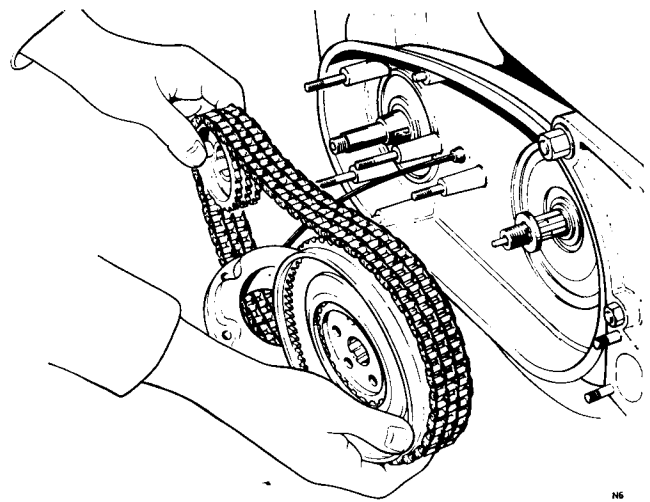

Fig. C16 Removing engine sprocket clutch and primary chain as a set
- 12 For convenience, remove the engine sprocket puller from the sprocket and lift away the remainder of the clutch, the engine sprocket and primary chain as a set as shown in *Fig. C16*, feeding the stator between the runs of the primary chain.